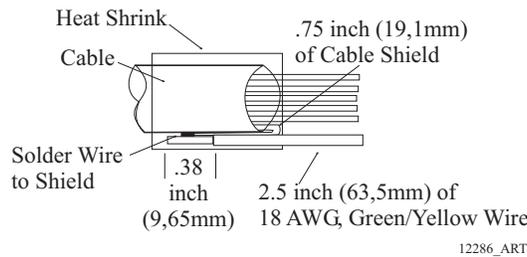

Figure 4-20: Engine Shield
- F Pull back the shield wire and solder to a 2 1/2 inch (63,5mm), 18 AWG, green/yellow wire as shown in Figure 4-20: Engine Shield.